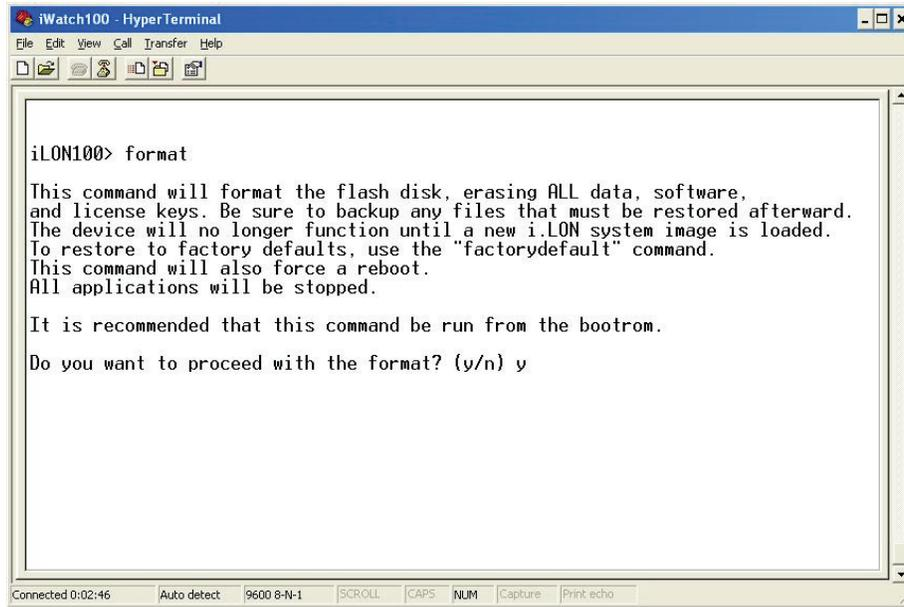

FIGURE 4-6. FORMATTING THE *i.LON 100*
1. Type **Format** at the HyperTerminal prompt (see Figure 4-6), and then press **Enter**.